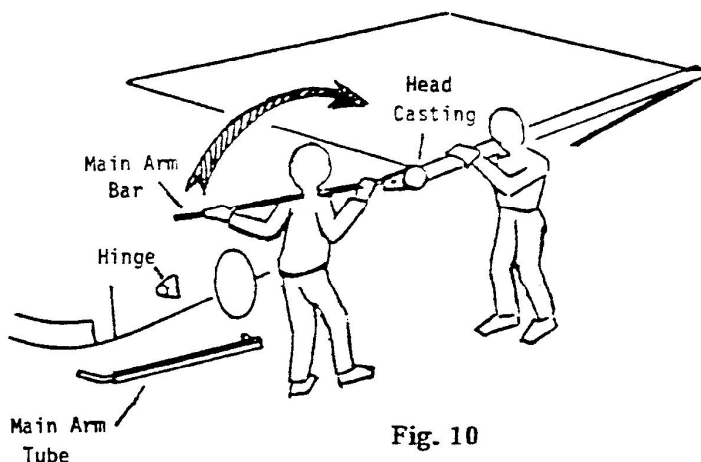

Fig. 10
Step 7. Wind the Spring - The Zip Dee roller has only one torsion spring, and it is the largest and strongest in the industry. To wind the spring, support the open awning, disconnect the rear main arm from the coach and slip the tube section off of the steel bar. Using the steel bar as a lever, turn the rear head casting clockwise as shown in Fig. 10, one revolution for each foot of awning length. This is in addition to the 10 turns put on the spring by the initial opening.